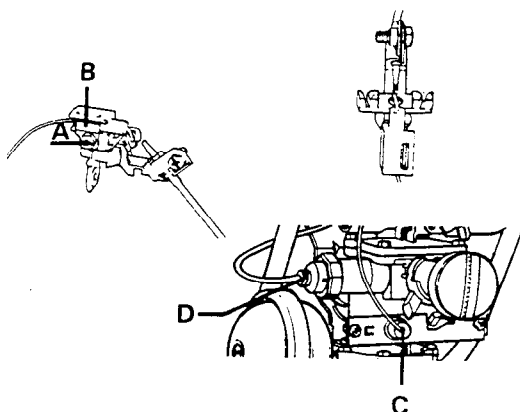

Fig.15
- a) Disconnect thermocouple from thermoelectric valve (D) (see fig.15).